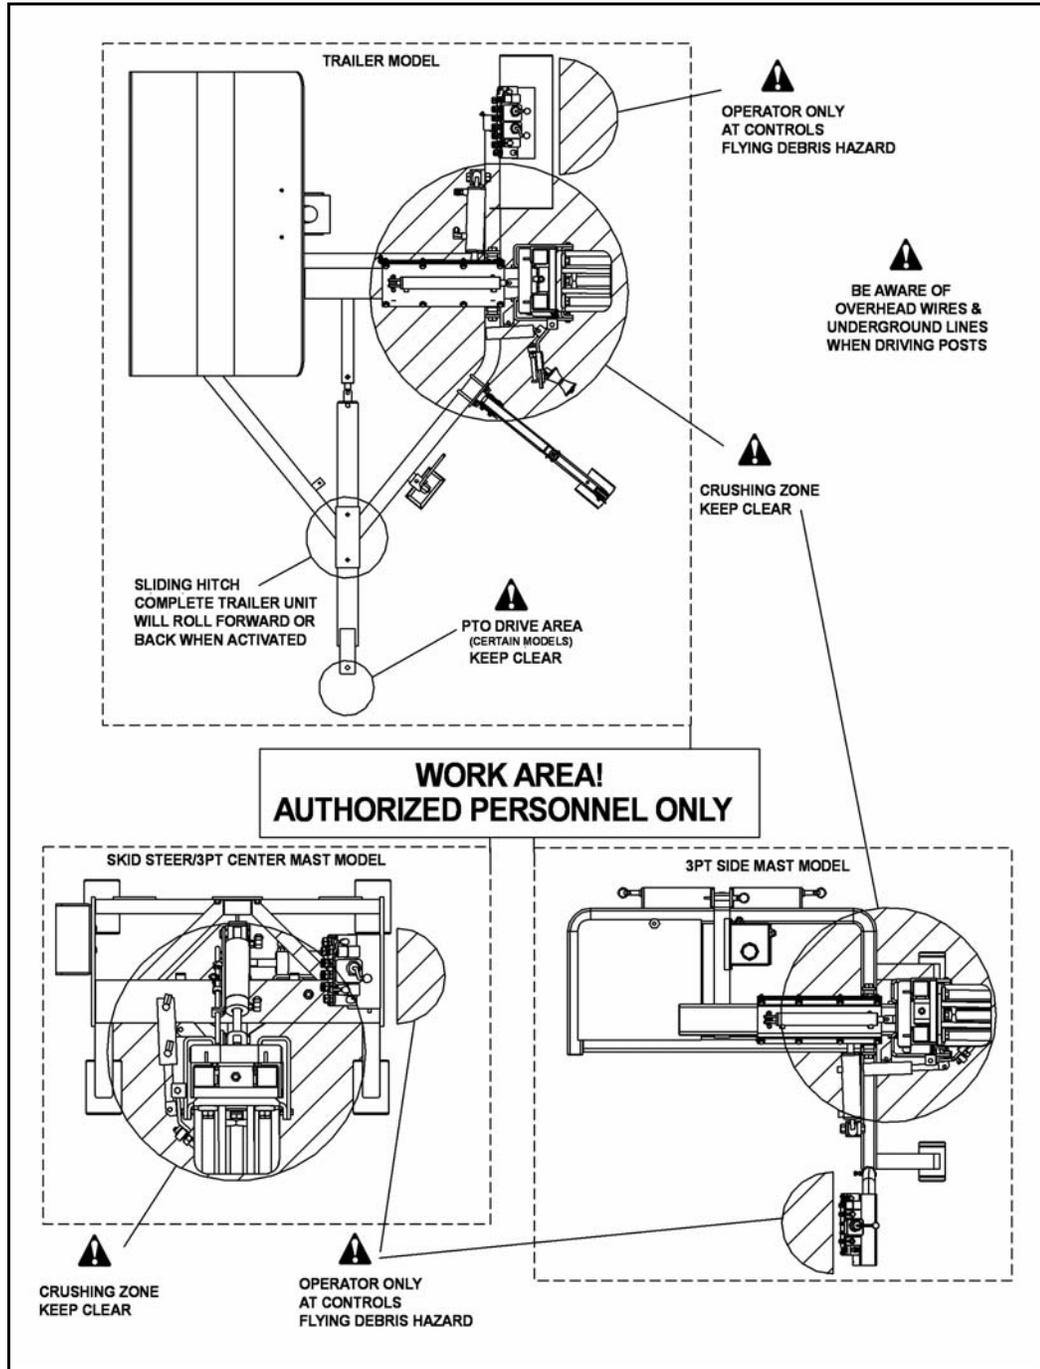

Figure 2.2 Work Safety Areas
1. Review the work area safety diagram (Figure 2.2) for your model prior to starting work. Follow all set-up instructions and do not allow any unauthorized people into the working area.